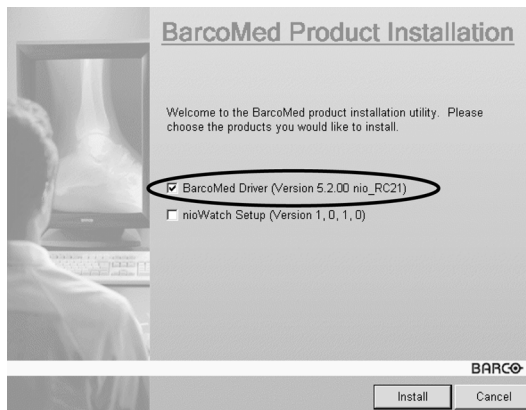

Figure 46
3. Make certain that the checkbox next to the driver is checked and that all other checkboxes are unchecked (figure 46 below). Click **"Install"** to continue.